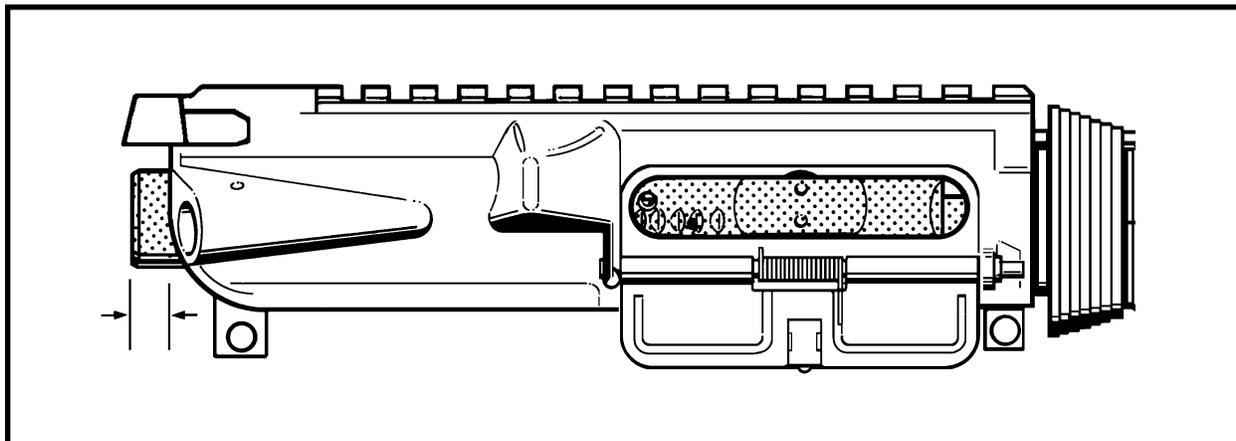

Figure 4-5 Correct Indication with "NOT GO" Headspace Gauge
8. The bolt shall close and lock over the "GO" headspace gauge. It shall not lock over the "NOT GO" headspace gauge. See Figure 4-5. If the weapon does not pass the test, retest it with a known serviceable bolt assembly to determine the source of the problem. If after retesting with